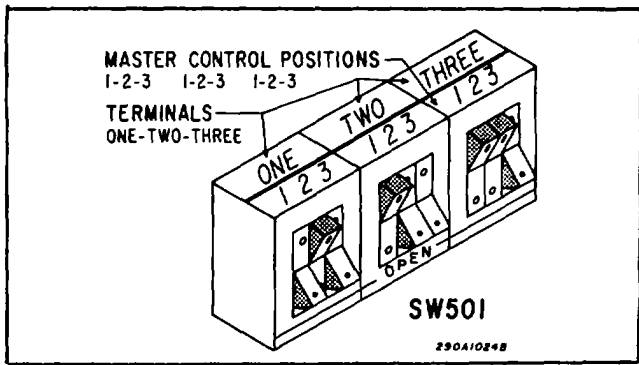

Figure 3-9. MASTER Switch Programming.
To program the example described in steps A and B of this paragraph, close switches ONE-1 and ONE-3 to program terminal 1 (flashing lights) for MASTER positions 1 and 3, respectively. Close TWO-2 and TWO-3 to program terminal 2 (rotating lights) for positions 2 and 3 respectively. Close THREE-3 to program terminal 3 (optional flasher) for MASTER position 3 (see figure 3-9).
D. Program the MASTER switch by depressing the appropriate sections of 3W501 with a pencil point or similar pointed tool. As indicated in figure 3-9, the switch contacts are closed when the upper half of the rocker is pressed. Any combination of terminals can be controlled by any given MASTER switch position.